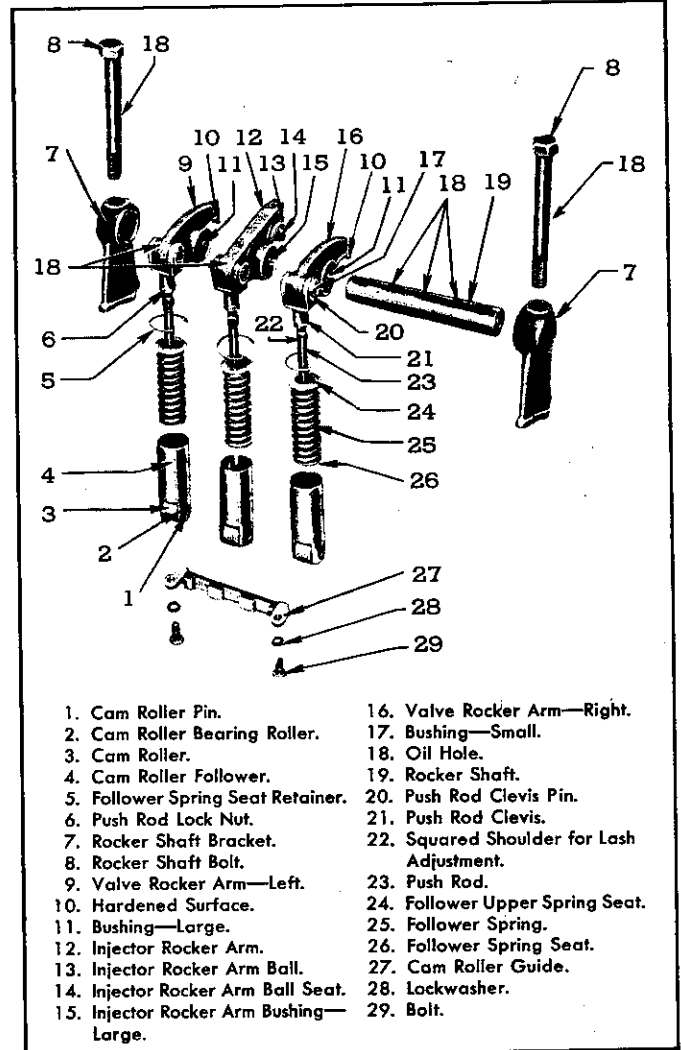

Fig. 15—Details of Valve and Injector Operating Mechanism.
The valve follower spring retainers (lock wires), shown in Fig. 15, still remain in the cylinder head. If the head is to be changed, these springs must be removed; if not, they may be left in place.
1. See that the spring seats, push rods, and retainer springs, set down into the hollow followers as shown in Fig. 15. Then with the lock wires in place in the cylinder head, slide the follower assemblies into the cylinder head.